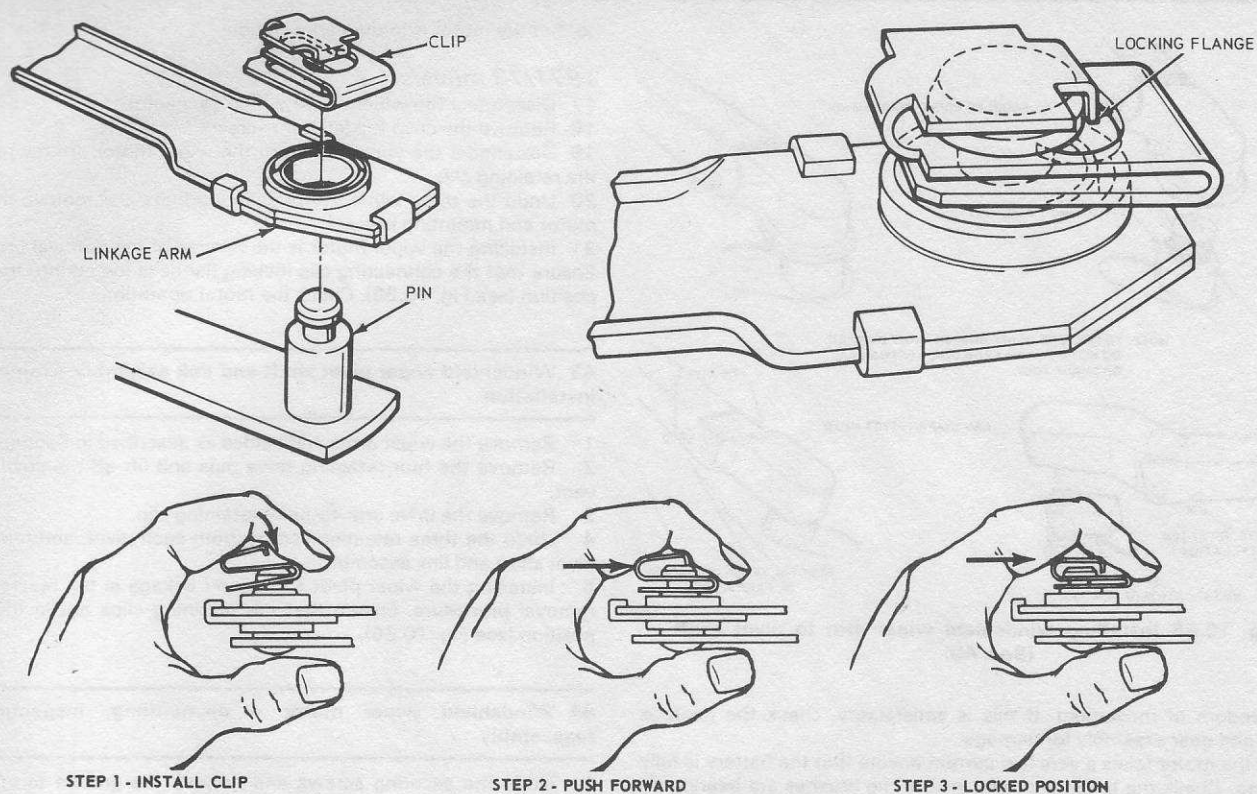

Fig. 10.26 Installing the windshield wiper arm retaining clips (Secs. 42 and 43)
- 21 Installing the wiper motor is the reverse of the removal procedure. Ensure that the connecting clip locking flange is forced into the locked position (see Fig. 10.26). Check the motor operation.
- 5 Installing the wiper pivot shafts and linkage is the reverse of the removal procedure. Ensure that the retaining clips are in the locked position (see Fig. 10.26).